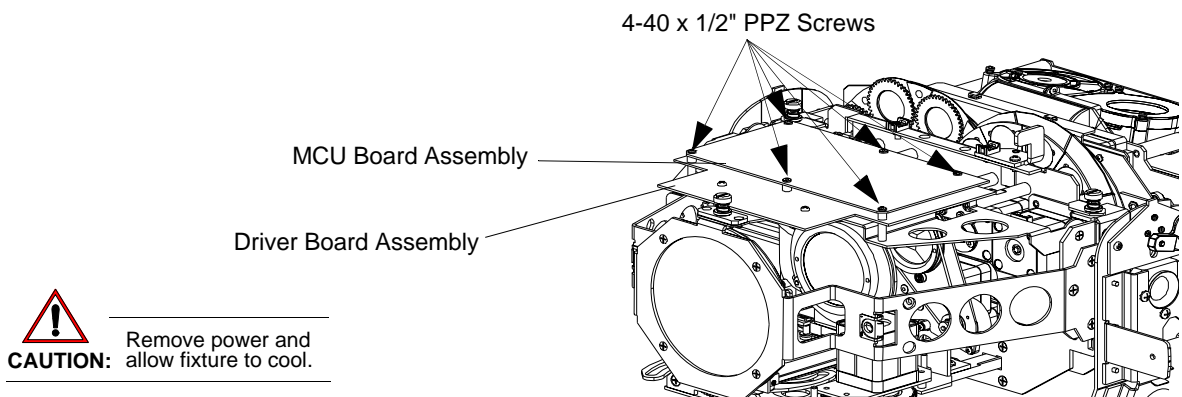

Figure 2-10: MCU Assembly Removal
- Step 4. Remove six 4-40 x 1/2" PPZ screws (as indicated in Figure 2-10).
- Step 5. At driver board assembly, remove two 4-40 x 3/8" PPZ SEMS screws as indicated in Figure 2-10 on page 27.